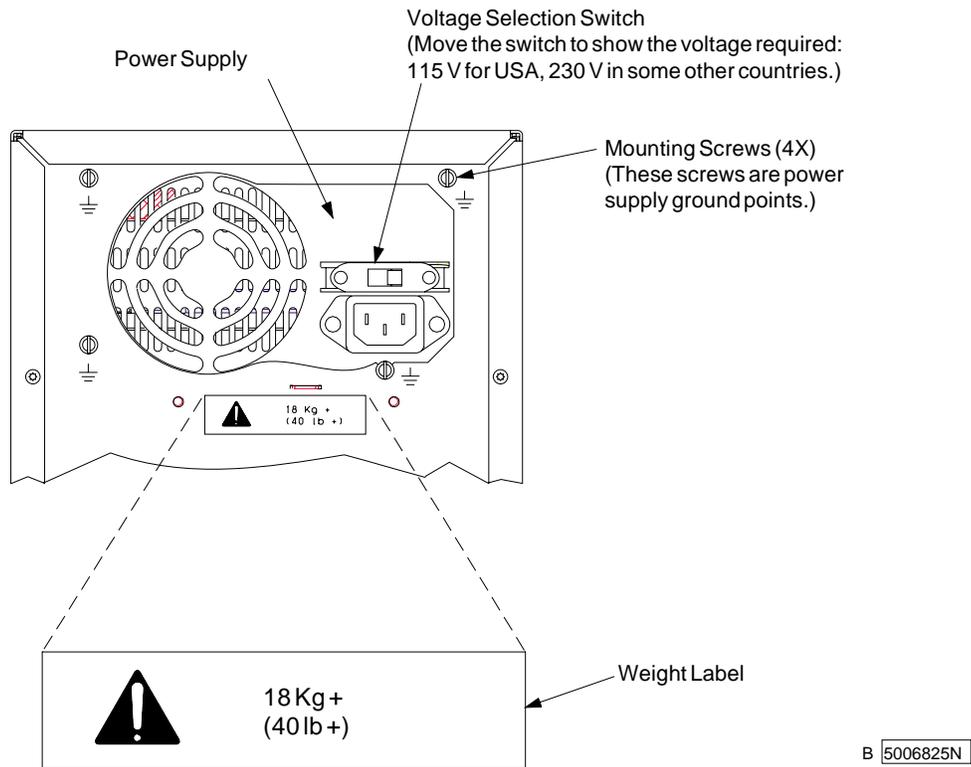

Figure 4-6. Weight Label (Back View)
- 8** Verify that the voltage shown on the power supply label and on the voltage selection switch matches the voltage of the power source. See Figure 4-6 on page 4-7.
- 3 Verify that the weight label is installed on the 7131 Storage Tower. See Figure 4-6.